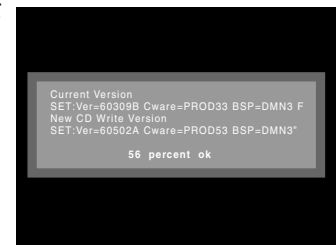

Fig. 3-4-7
- 3) Pressing the REC button on this HDD/DVD recorder will start writing (Fig. 3-4-7). To cancel writing, press the OPEN/CLOSE button and remove the disc.